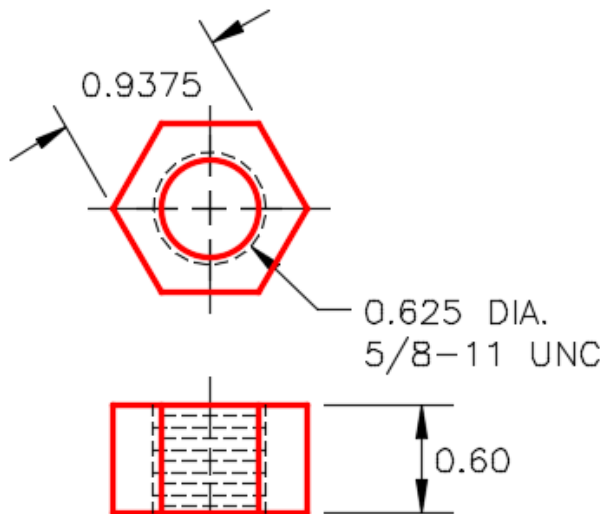

Figure Step 5A
Step 5 Draw a solid model of the nut on layer: Solid 9 using the dimensioned drawing as a reference. Draw a center line in the model. (Figure Step 5A and 5B)